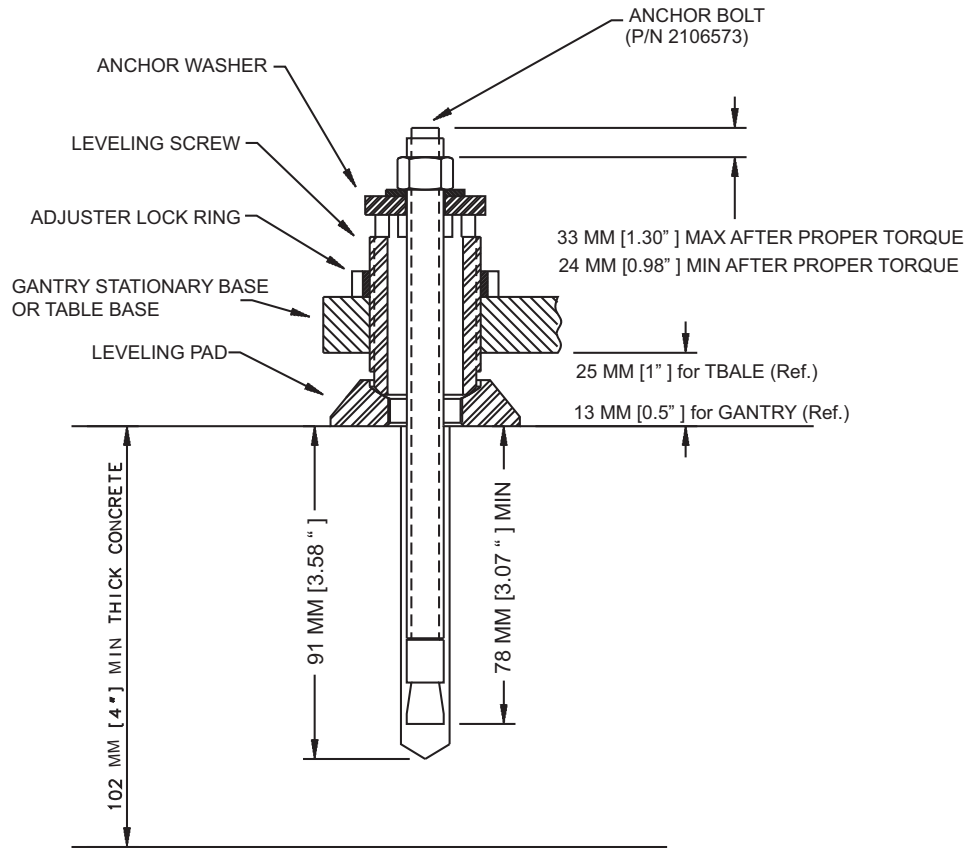

Figure 1-58 Gantry and Table Anchor Assembly with 8-inch Anchor (P/N 2106573)
- Drill each hole until the mark on the drill bit is even with the top of the drill bushing. All holes must have a depth specified in Table 1-4, as measured from the top of the adjuster to the bottom of the hole. (See Figure 1-58, on page 79) Use an upside-down anchor to check the hole depth.